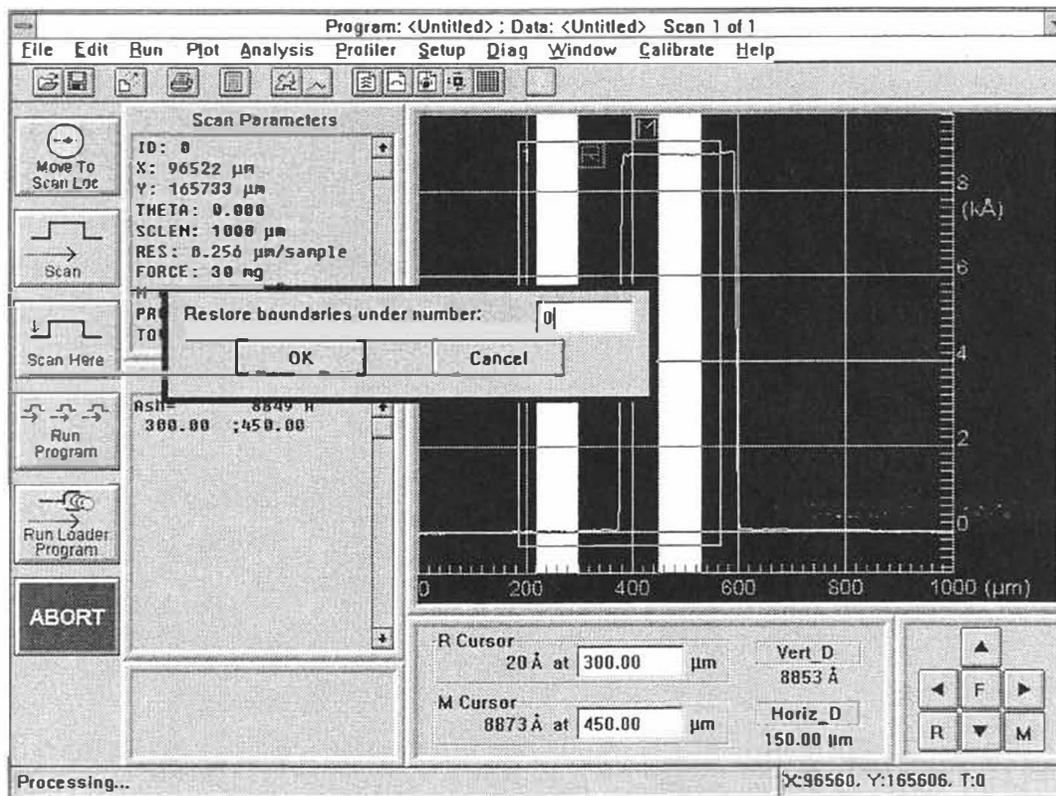

Figure 4-13. Restoring Saved Boundaries
2. Click-on "Restore" from the Plot Menu. A dialog box will be displayed requesting the I.D. number under which the desired boundaries to be restored were saved (see Figure 4-13).